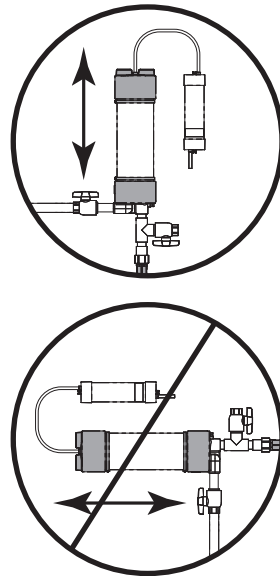

Figure 3. MDV and Cartridge Orientation
4. Using the included cable ties, cable tie mounts and cable tie screws, mount the MDV vertically to a secure surface (i.e. fence, wall or post). See “Figure 3. MDV and Cartridge Orientation”.